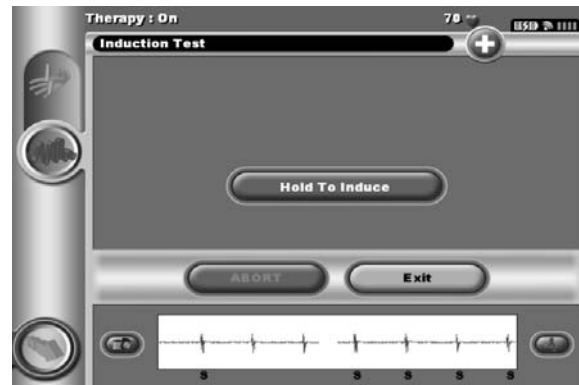

Figure 36: Induction test screen
7. Select and hold the Hold To Induce button for the desired duration (Figure 36).